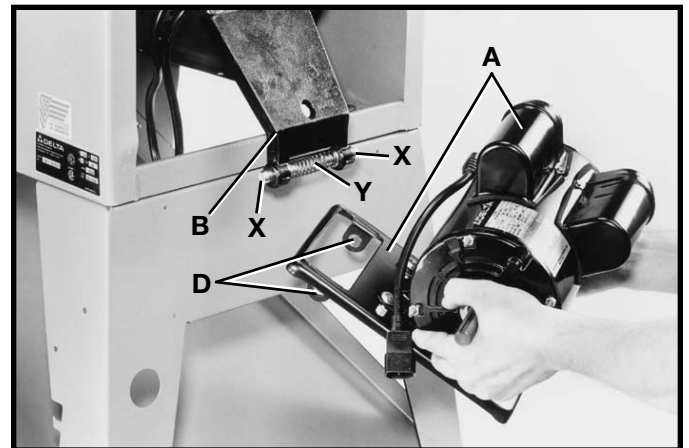

Fig. 16
1. Insert two pins (X) Fig. 16, into holes (D) in each side of bracket (B). Assemble spring (Y) onto ends of pins as shown.
3. Depress plungers (C) Fig. 17, on both sides of bracket (B) and rotate motor mounting plate (A) until plungers (C) are engaged in holes (D) Fig. 16, of motor mounting plate (A).